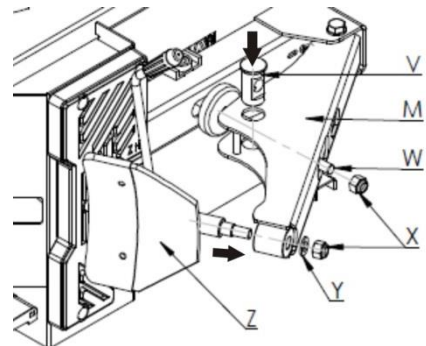

Fig. 10
- Pull out the breaker arm all the way, now return the arm to its original position slowly and put the piston rod (W, fig.10) through the rod casing hole (V, fig.10), now tighten the bolt (X, fig.10) using an air drill.
- Install the shovel (Z, fig.10) and tighten it firmly using washer (Y, fig.10) and nut (X, fig.10).